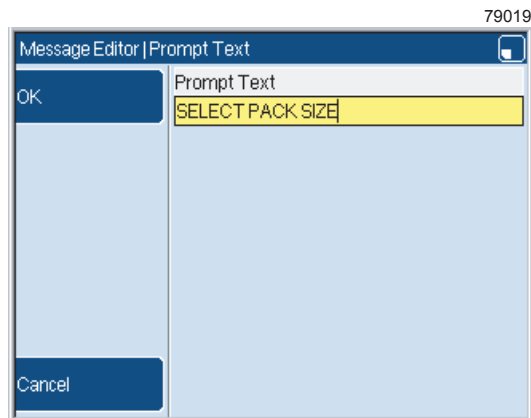

Figure 16. Prompt Text page
- Select the **Prompt Text** option and enter the letters "SELECT PACK SIZE", as shown in Figure 16.